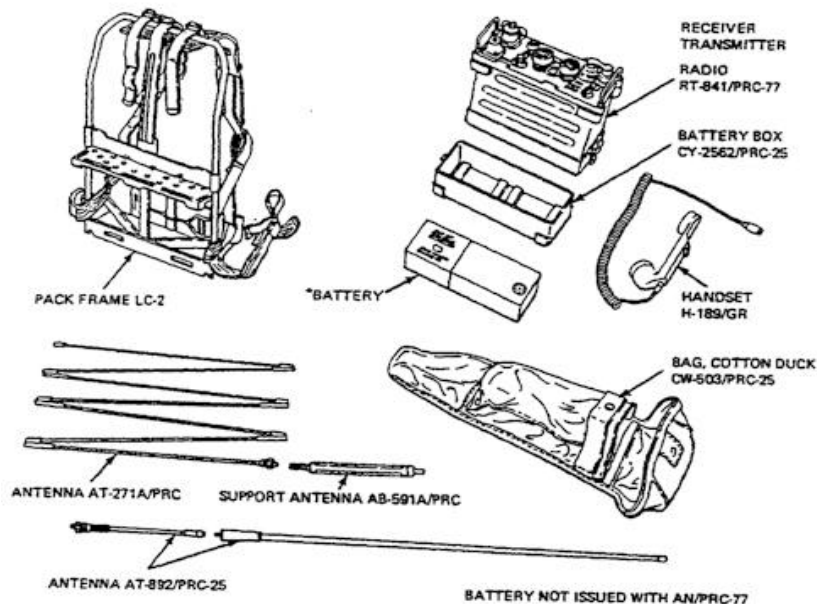

Figure D-3. Radio Set AN/PRC-77 and Components
**D-11. Items Comprising Operable Equipment** (Figure D-3).
**D-12. General Description** (Figure D-3).
(1) The receiver-transmitter is held in the receiver-transmitter case by four captive screws. The CY-2562/PRC-25 is attached to the receiver-transmitter case by two clamps. The complete RT-841/PRC-77, when assembled, is watertight. All controls are located on the front panel. A battery connector projects from the receiver-transmitter and mates with the connector of the battery.
(2) The CY-2562/PRC-25 is a light-weight metal case that protects and houses the battery. The battery sits on foam pads that are attached to the bottom of the CY-2562/PRC-25.
(3) A pressure relief valve is installed in CY2562/PRC-25 to vent hydrogen gas (a by-product of the magnesium battery, BA-4386/U, discharge action) from the CY-2562/PRC-25 and thus prevent the gas from accumulating in the receiver/ transmitter case and exploding. The valve is provided on new equipment and installed in used equipment per modification work order (MWO) 11-5800-212-301 (13 September 1972). The valve is required to prevent injury to personnel and prevent serious damage to the RT-841/PRC-77.
b. Minor Components (Figure D-3).
(1) Antenna AT-892/PRC-25. The AT-892/PRC-25 is a one-section, 3-foot long whip antenna. A spring at its base allows for positioning of the antenna to keep it in a vertical position, regardless of the position of the RT-841/PRC-77. This antenna is used for general short-range service and, because of its steel tape construction, can be folded into a small space.